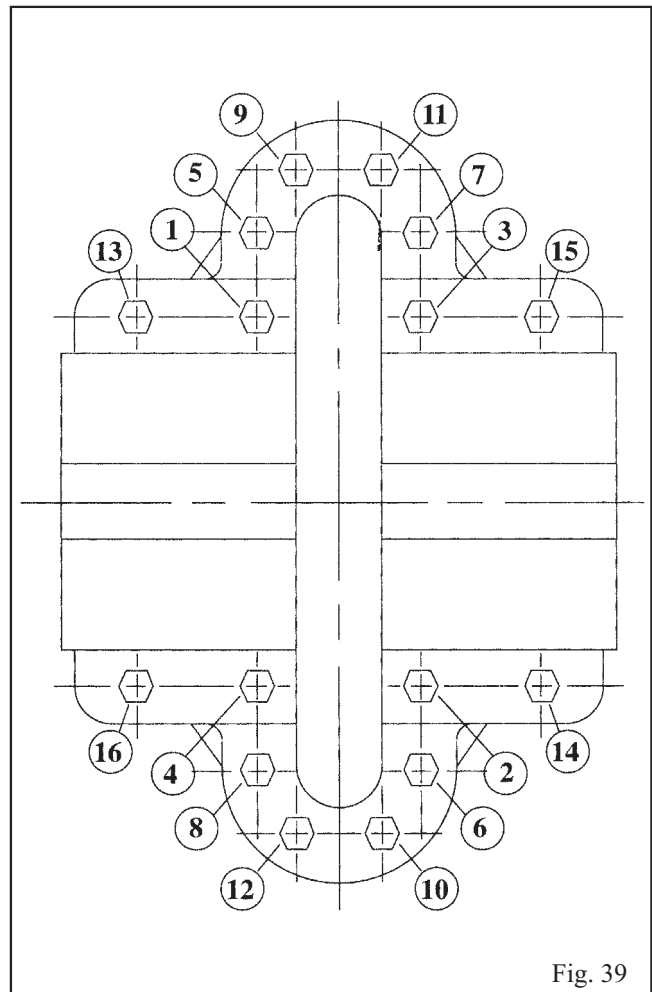

Fig. 39
24. Lower upper half casing (2-001-0) into place (See Fig. 28) and locate using the taper dowels (2-916-9) and install casing main joint bolts (2-904-1). The casing joint bolts should be tightened to the following torques: 300 ft-lb minimum for .75"-10 Ferry Cap Countr-bor screws (Grade 8), 400 ft-lb minimum for 1.0"-8 Ferry Cap Countr-bor screws (Grade 8). Bolt torquing pattern is shown in Fig. 39. The number of casing bolts varies with the size of the pump (See Fig. 23). Before tightening bolts, be sure taper dowels are seated properly in reamed holes.
29. Reinstall all main joints bolts, following tightening sequence illustrated in Fig. 39. The number of casing bolts varies with the size of the pump. (See Fig. 23) Torque bolts 300 ft-lb minimum for .75"-10 Ferry Cap Countr-bor screws (Grade 8) and 400 ft-lb minimum for 1.0"-8 Ferry Cap Countr-bor screws (Grade 8).